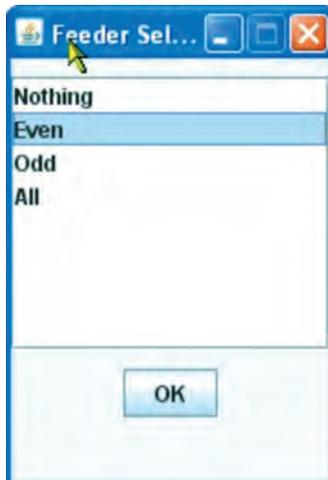

Fig.13
**Note:** by pressing ALL BUTTON, the user can select no feeder, all feeders, odd or even feeders (Fig.13).